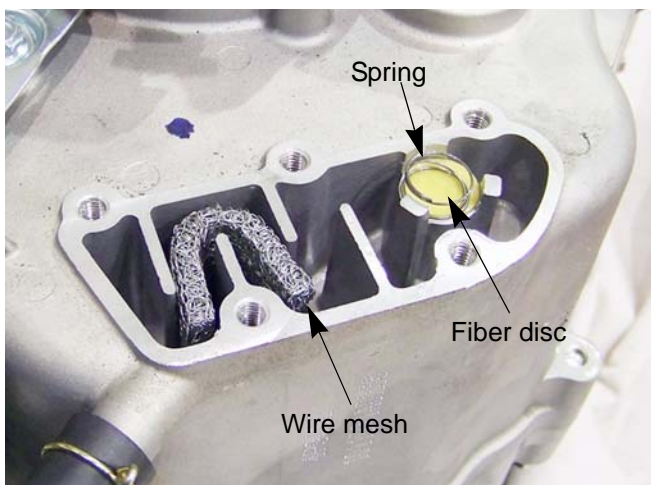

Figure 5.9
5. Inspect the folded wire mesh in the chamber. See Figure 5.9.